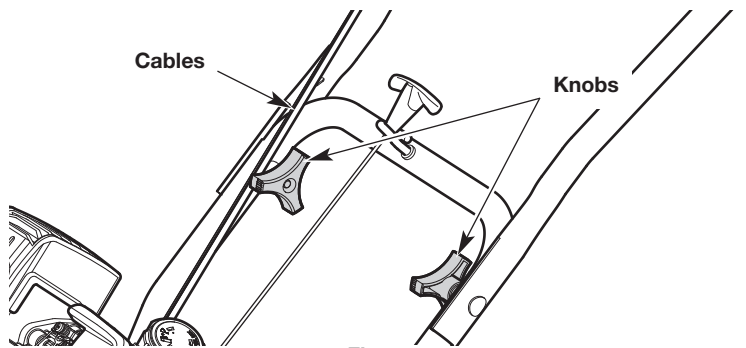

Fig. 4
2. Loosen the knobs (Fig. 4).
NOTE: Take care not to pinch the cables when positioning the handlebar (Fig. 4).